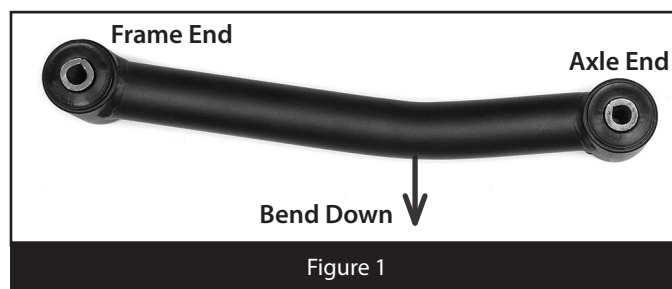

Figure 1
8. Using the OE hardware, install the arms in the frame and axle mounts so that the bend is down and closer to the front axle. (Figure 1). It may be necessary to raise or lower the axle to align the control arm bolts. Leave hardware loose, it will be tightened with the vehicle at ride height.